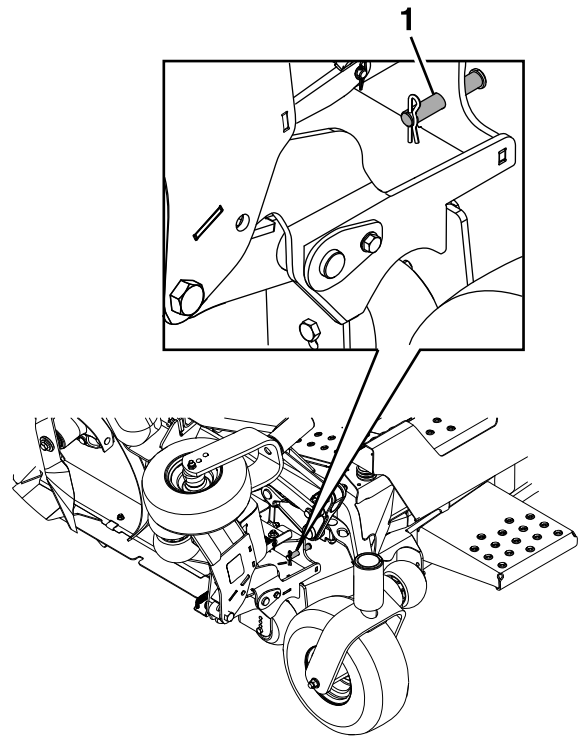

Figure 19
1. Remove the clevis pin and hairpin that secures each wing in the up position. Place them in the storage position shown in Figure 19.